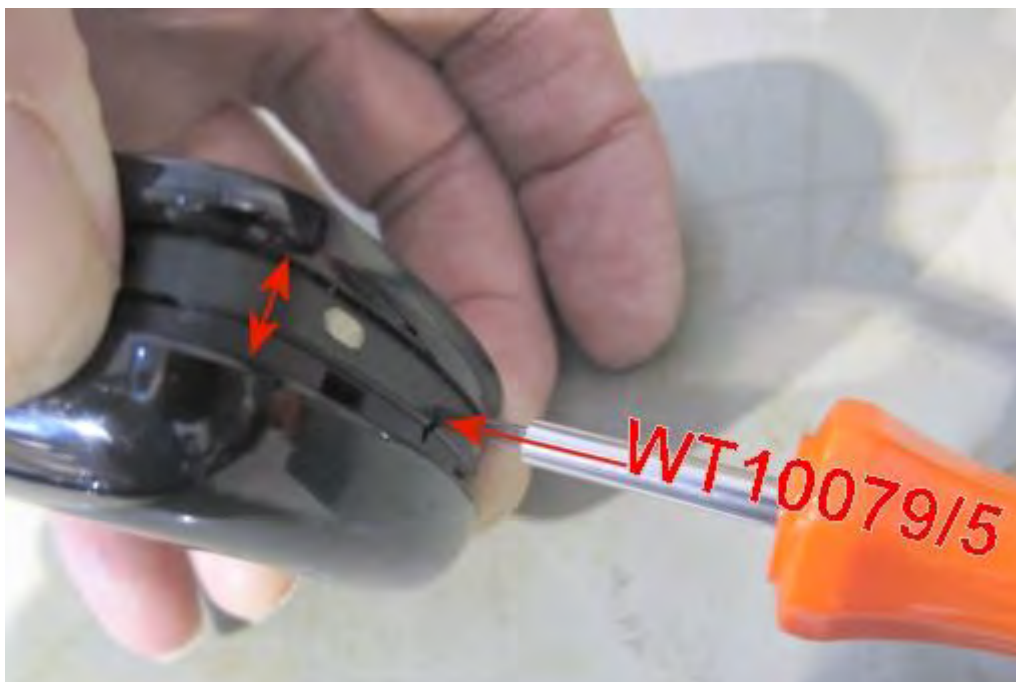

Figure 9
2. Remove the back from the TSR. Using a suitable tool depress the securing latch (WT10079/5 is suitable) whilst pulling the back off the unit (see Figure 9)